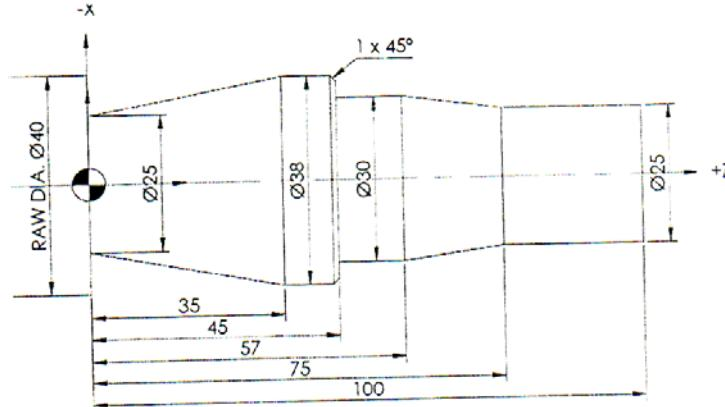

Fig. 2
b) Write CNC program using G and M codes to turn the component shown in fig. 2 having Stock size is \varnothing 40mm. Use canned cycles wherever applicable. Assume suitable data for speed and feed. [10]